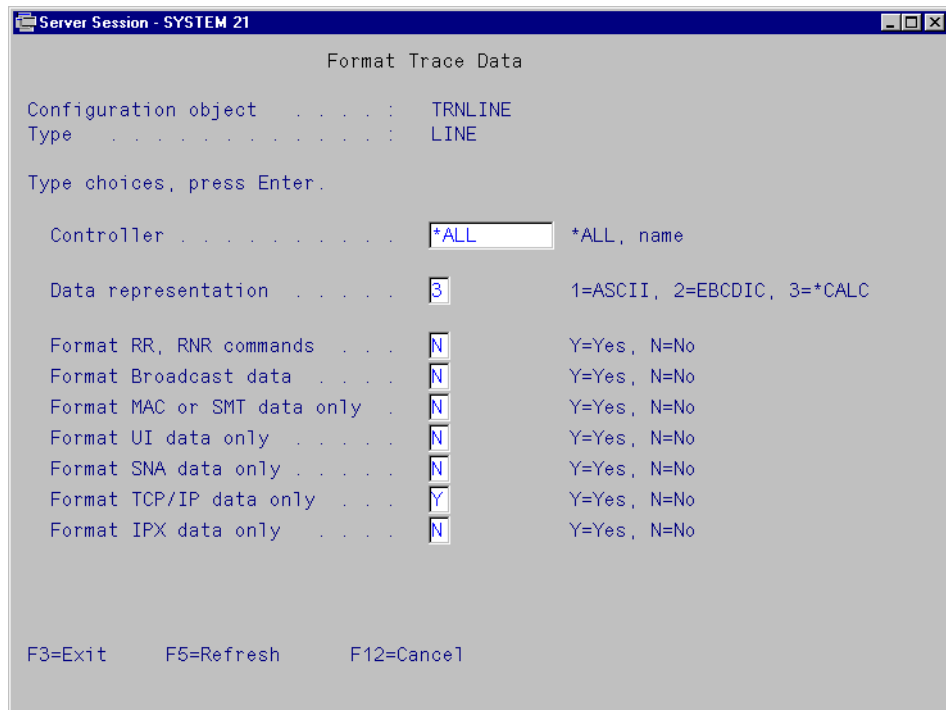

Figure 198. Format Trace Data
2. Format the trace as required depending on the protocol. Figure 198 shows the Format Trace Data screen. In this example, the trace is being formatted for TCP/IP data.